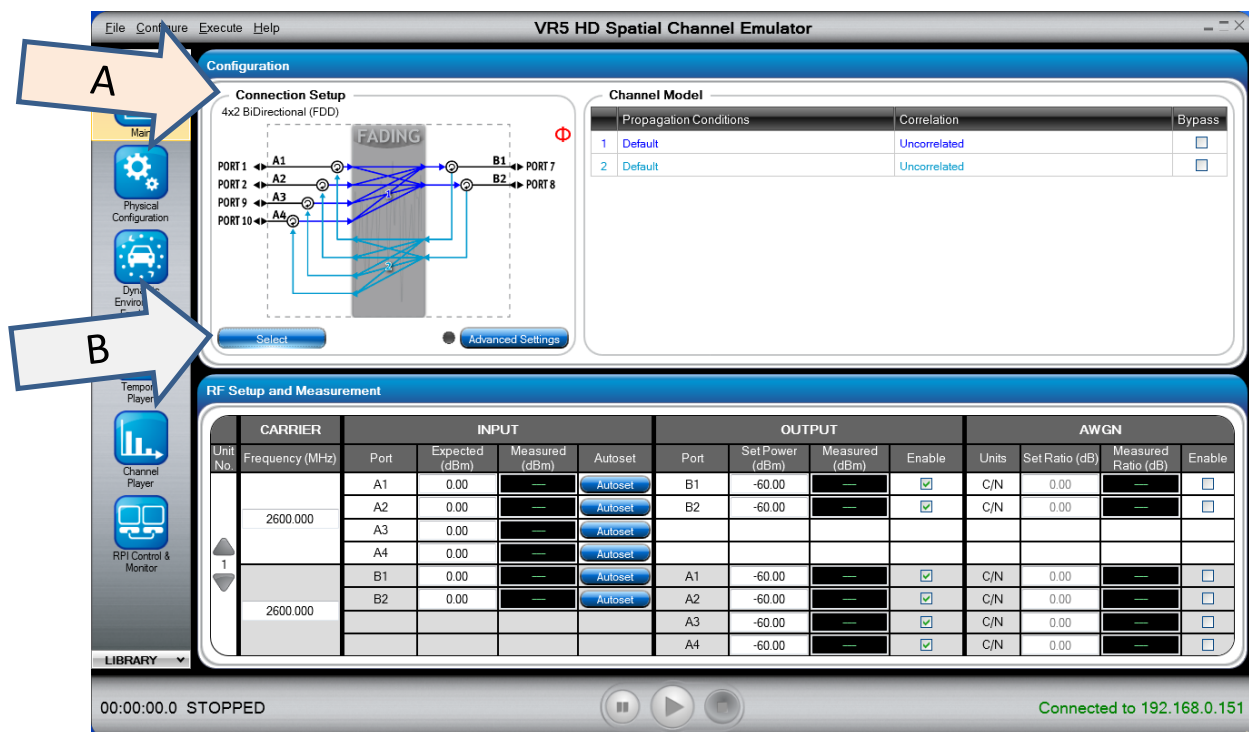

Figure 4-4: VR5 HD Main Window
4. The *VR5 HD Main* window displays, as shown in Figure 4-4.
5. Under the Connection Setup section, select the **8X2 BiDirectional-8600 (TDD)** test, as shown in Figure 4-4.